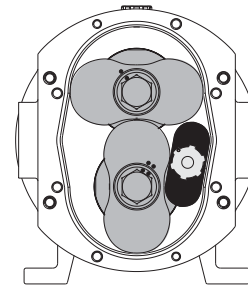

Figure 8
5. Re-position the rotor locking tool **111** as shown in figure 8.